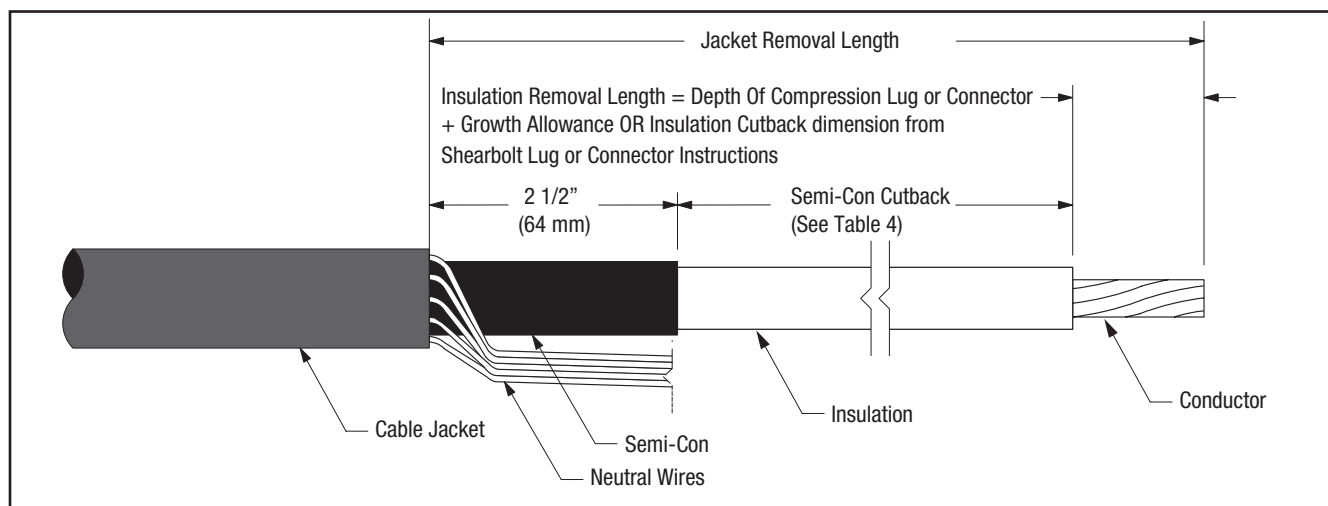

Figure 1
- 2.3 Prepare cable using dimensions shown in Figure 1. **BE SURE TO ALLOW FOR DEPTH OF TERMINAL LUG OR CONNECTOR.** If using 3M Shearbolt Lugs QL2 Series: Two Hole, 3M Shearbolt Stem Connector QP 7-4/0 or 3M Mechanical Shearbolt Connector QCI Series, proceed to Step 2.4. If using a Crimp Type (Compression) lug, measure the depth of the barrel, or if using a Crimp Type (Compression) connector, measure to the barrel center stop/midpoint, and see the NOTE below, in order to calculate the Insulation Removal Length. Table 5 can be used to assist in calculating the total Jacket Removal Length when using a compression lug or connector.